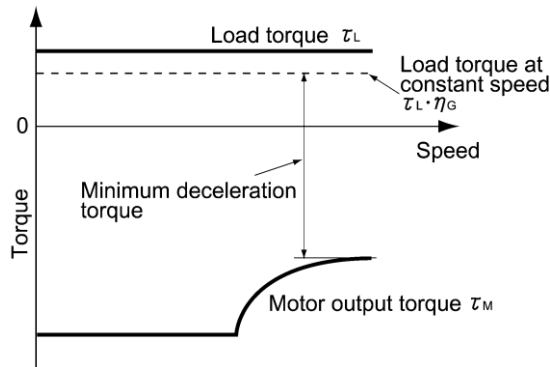

Figure 9.4 Example Study of Minimum Deceleration Torque (1)
2) Calculate the minimum deceleration torque (See Figures 9.4 and 9.5.)
If the load torque is a positive value, Figure 9.4 applies.